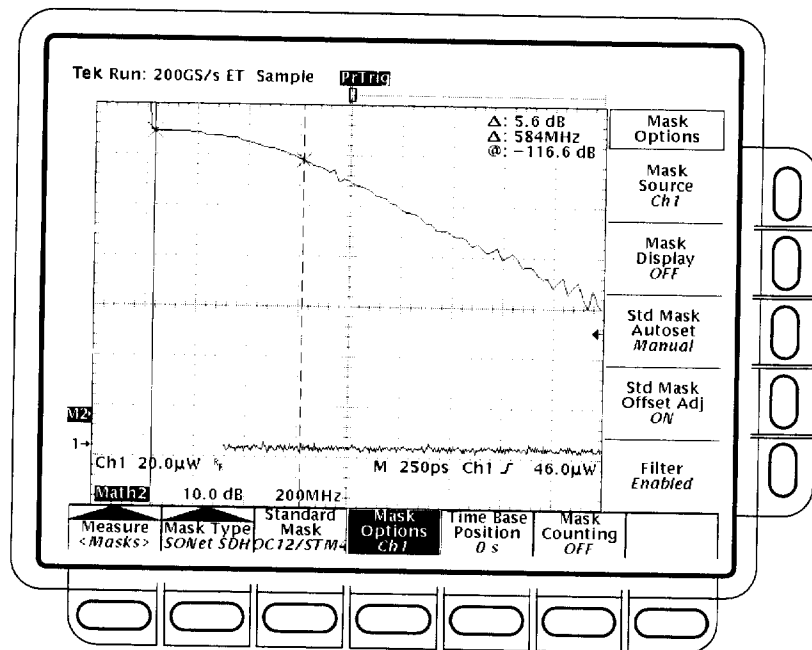

Figure 1-47: Optical impulse response for OC-12 SONET Reference Receiver
- f. Next, move the cursor currently positioned at the beginning of the record until the cursor is just right of the DC spike in the response (see Figure 1-47 on page 1-106). The unsigned $\Delta \text{ dB}$ readout should be at or between the upper and lower limits shown in Table 1-13 on page 1-107 (note that the entries in the table are signed numbers, but the $\Delta \text{ dB}$ readout is not) for the mask that is turned on.
NOTE. In Figure 1-47 the left cursor has been moved to the zero dB level. The right cursor remains at the OC-12 data rate of $622 \text{ MHz} \pm 4 \text{ MHz}$ (the delta frequency is 584 MHz because the right cursor is no longer referenced to DC). The delta attenuation from the zero dB level to the 622 MHz Cursor is 5.6 dB.